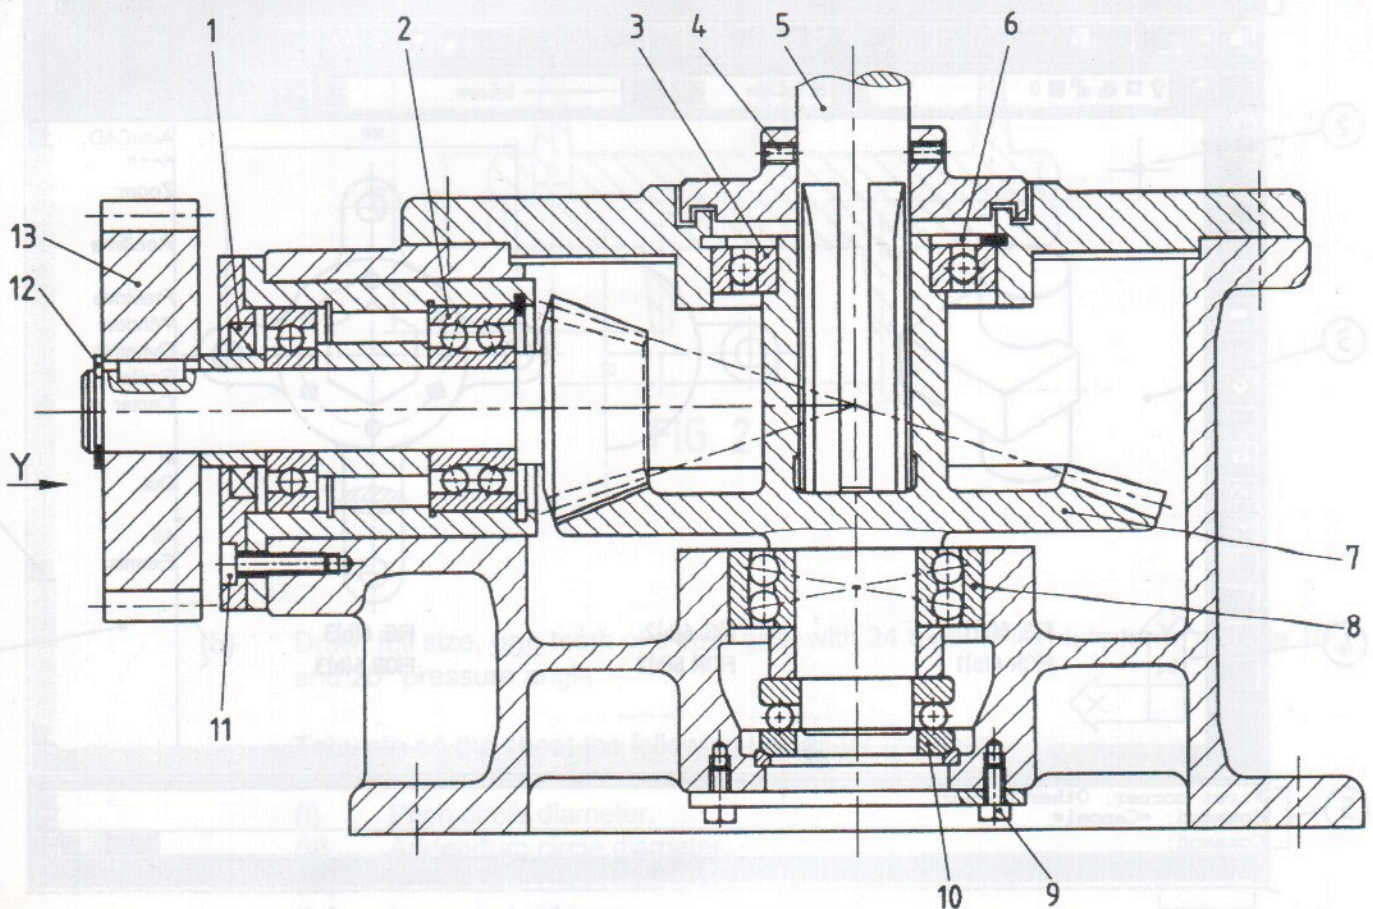

FIG. 5 FÍOR 5
5. A sectional view of a speed reduction gearbox is shown in Fig. 5.
(c) The pair of meshing bevel gears, shown in Fig. 5 provides a gear ratio of 3 : 1. The shafts are set at an angle of 90° to each other. The pinion, which is the smaller gear, has a pitch circle diameter of 48 mm.